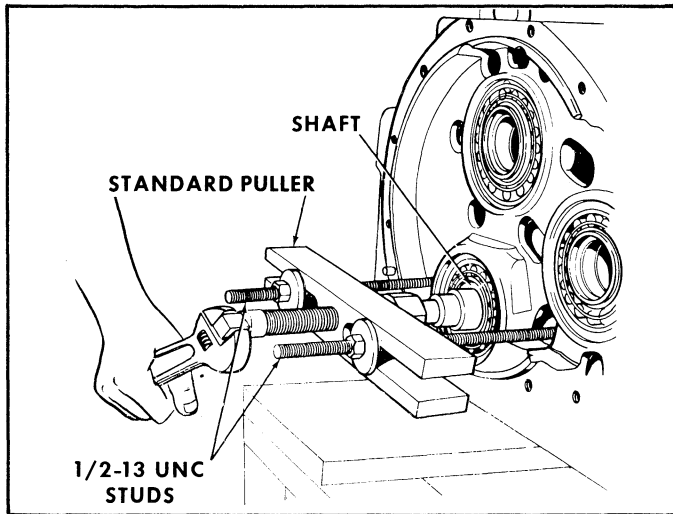

Figure 34. Removing the Output Shaft Gear from the Output Shaft.
B. Remove the seven hex-head capscrews (fig. 61, 38) that secure the bearing retainer (35) to the main housing. Remove the bearing retainer and the bearing retainer shims (34) from the main housing. Retain the shims. Remove the bearing retainer "O" ring (33) from the bearing retainer. Discard the "O" ring. Remove the two oil seals (37) from the bearing retainer. Discard the oil seals. Remove the hydraulic fitting (36) from the bearing retainer only if replacement of parts is necessary (see figure 34).